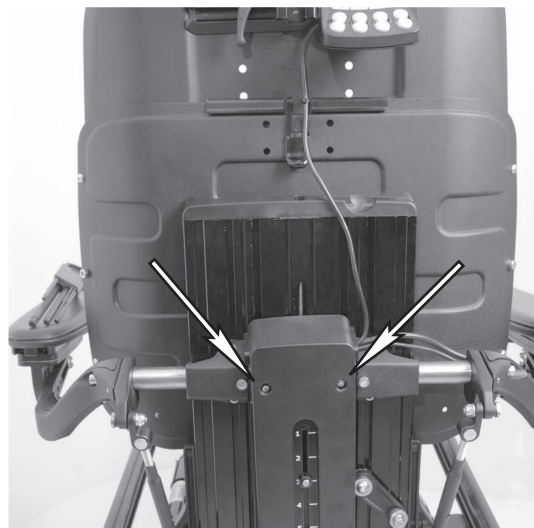

Fig. 5. Mounting the cover and cable.
7. Remove the cover from the seat backrest by loosening the two screws, fig. 5, and fold the cover backwards.